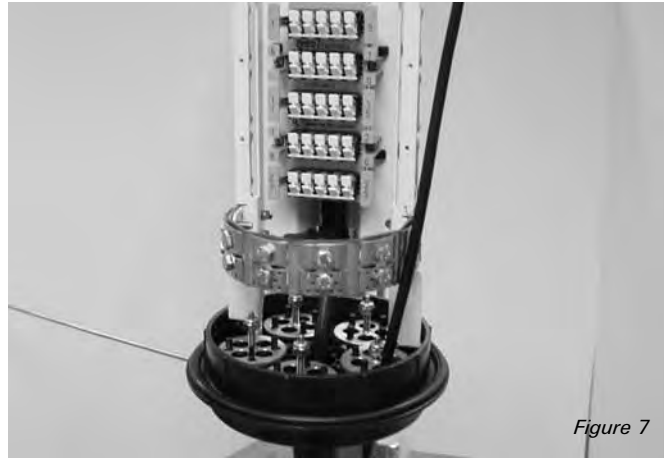

Figure 7
4. Insert an appropriate length of drop wire through grommet and route it past the front of the ground clamp. (Figure 7)